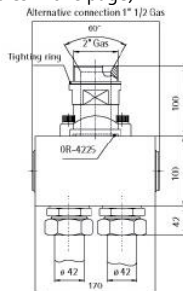

Fig. 1- Three way fitting
- b) three-way special fitting OMARLIFT (see Fig. 1). This fitting has a male 2" thread which has to be fixed to the valve VP 200 and two end fittings with cutting ring, 24° bevel and a turning nut M 52 x 2. These connections can be assembled parallel on the same side or on two opposite sides (exchanging the connections with the caps), The two outlets with end fittings can be connected through rigid pipes  $\varnothing$  42 or through flexible hoses 1" 1/2 (as in the tables in this page).